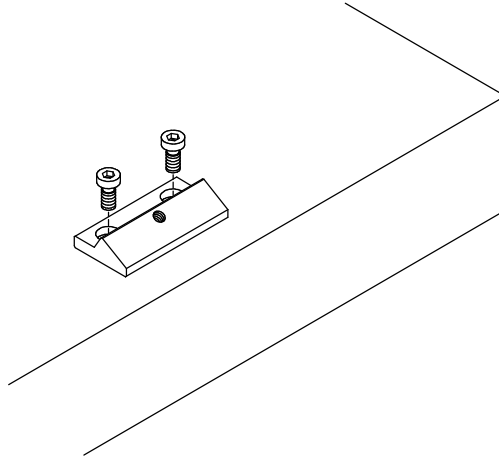

Figure 2
STEP 3. ATTACHING THE RAIL TO THE SURFACE PLATE (A). Place the rail on the surface plate over the two inserts, while keeping the slanted side facing the closest end of the plate as shown in Fig. 2. **(B).** Insert the special low head screws in the counter-bored holes in the rail. **(C).** Using the hex wrench, tighten the two screws to 10 ft.-lb. torque. **DO NOT OVER TIGHTEN.**